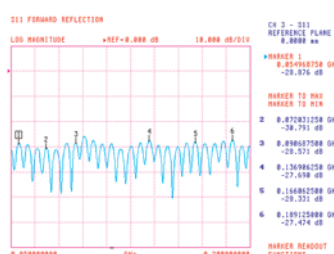
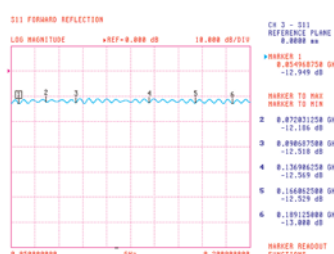
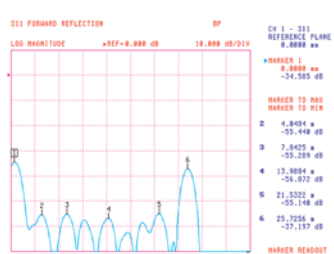
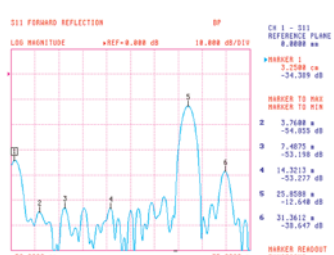

Figure 1: Healthy Return Loss
Figure 2: Poor Return Loss
Figure 3: Healthy TDR/FDR
Figure 5: Line Problem Anomaly
In **Figure 1**, we see a return loss trace shot in Log Mag that gives the warm fuzzy feeling of a great antenna system with the average return loss hovering around 30 dBm.
**Figure 2** unfortunately confirms your worst suspicions. You have a transmission system failure and the Wattmeter, though usually not a clear indicator, comes through in this case.
I defer to **Figure 3**, which pops out of the Vector Network Analyzer, operated by someone in whom you have faith. This is the TDR trace of a healthy line. Coupled with **Figure 1**, **Figure 3** will be telling you that the problem is not in the transmission system. A good input-coupled connection along with a good-looking load usually equal **Figure 1**. Today is not your lucky day. You are the proud owner of **Figure 2**, which is the *very* poor fire-prone return loss.
Now you have a sinking knowledge that your upper complex or your antenna has bit the dust. It is time to get a crew up the tower with a mating reducer to N-type female and a precision load, remove the last element of the complex and cap the line. Whew, what a relief, the return loss trace settles in again to look something like **Figure 1**. A cry of joy rings through the room, until it suddenly dawns on you that if the line is fine, the 12-ton pylon is the culprit; your next 60 days look pretty bleak.
OK, let us change things a bit, and make the news better. You are the unhappy recipient of the poor result trace of **Figure 2**. The TDR/FDR trace that pops out of the Vector Network Analyzer looks like the one in **Figure 5**. Up the tower goes the crew armed with the reducer and load. Off comes the complex and on goes the cap. The return loss in **Figure 2** changes just a skosh but essentially stays the same. The TDR trace of **Figure 5** stays essentially the same.